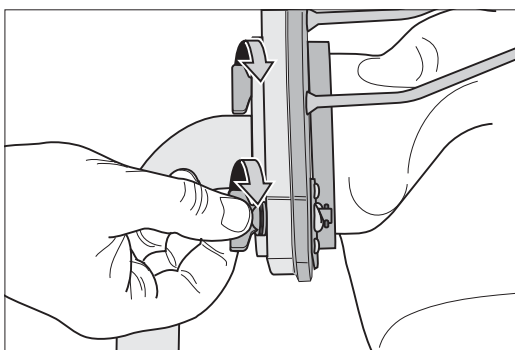

Fig. 4 Secure the dust bag using the quick-release fasteners.
- 6 Fix the dust bag to the locating flange using the two quick-release fasteners (Fig. 4).